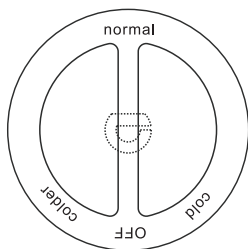

Figure 1 – Temperature thermostat knob.
**Note:** Figure 1 above is for general reference only and your physical appliance may differ.
After you switch on your beverage chiller for the first time, use the Temperate Control knob (Figure 1) located in the rear of your beverage chiller cavity, to set your preferred temperature. "Cold" is the warmest setting. "Colder" is the coldest setting. "Off" will stop the appliance from operating. The beverage chiller temperature range is 1° C – 10° C (33° F – 50° F).